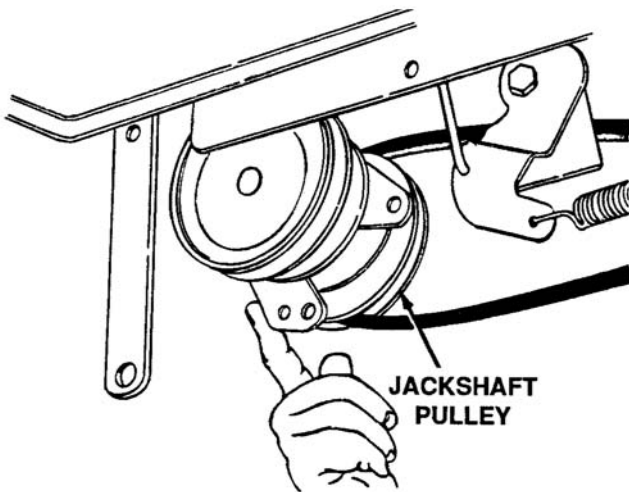

Figure 4-73. Removing Front Drive Belt From Jackshaft Pulley
2. Push forward on the jackshaft assembly. Slip the back of the belt at the jackshaft off the jackshaft pulley. See Figure 4-73.